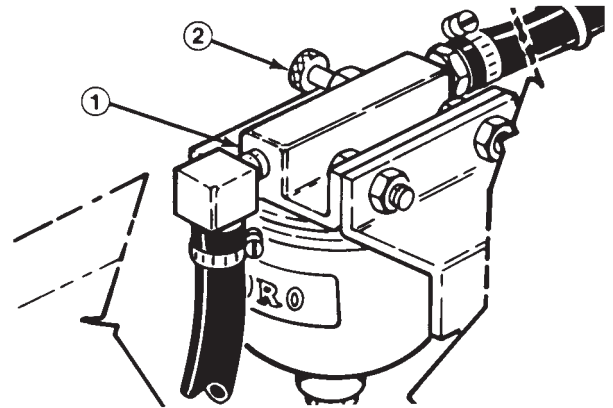

Figure 11
- From the left side of the rear wheel, locate the air bleed screw on top of the fuel filter/water separator and loosen the screw (Fig. 11).